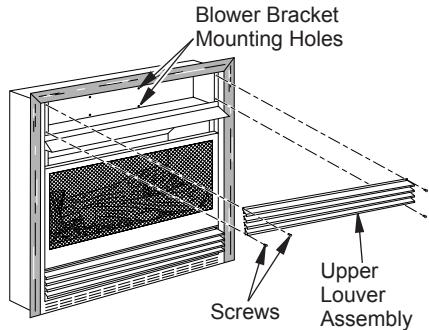
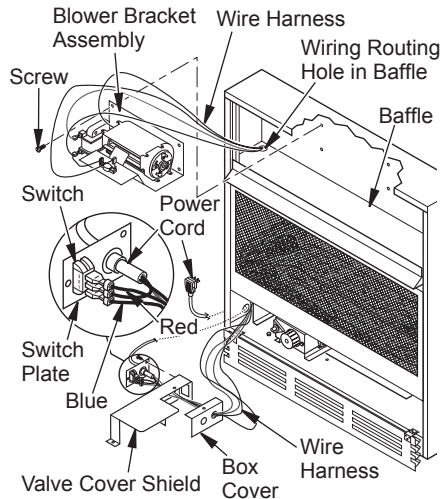
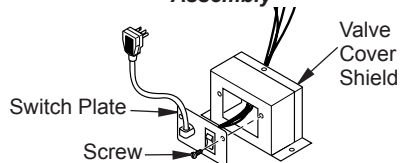

Figure 14 - Removing Upper Louver Assembly
Figure 16 - Installing Blower Bracket Assembly
Figure 17 - Installing Switch Plate to Valve Cover Shield
Built-in installation of this fireplace involves installing fireplace into a framed-in enclosure. This makes the front of fireplace flush with wall. An optional brass trim kit accessory is available (see *Accessories*, page 27). Brass trim will extend past sides of fireplace approximately 1/2". This will cover the rough edges of the wall opening. If installing a built-in mantel above the fireplace, you must follow the clearances shown in Figure 14, page 12. Follow the instructions below to install the fireplace in this manner. **Note:** Your fireplace is designed to be used in zero clearance installations. Wall or framing material can be placed directly against any exterior surface on the rear, sides or top of your fireplace.
2. Remove 4 screws from louver assembly (see Figure 14). Save these screws.
3. Note the wire locations on back of AUTO/OFF/ON switch. The terminals on back of switch are numbered 1, 2 and 3. Carefully remove red wire from terminal 1 and blue wire from terminal 3. Black wire can remain on middle terminal 2 (see Figure 16).
5. In top of the heater cabinet, locate the four mounting holes on the outer casing. Align these four holes with those on the blower bracket assembly. Attach blower bracket assembly to the outer casing with 4 #10 screws (see Figure 16).
6. Route the wire harness through the hole in left side of baffle. Pull wire harness through lower opening above where the valve shield was removed. (see Figure 16).
7. Insert the 4 wire harness into one of the round holes in the rear of the valve cover shield and through the rectangular hole in the front of shield (see Figure 16).
9. Install the switch plate on the valve cover shield with 2 #10 screws provided (see Figure 17). Reinstall the valve cover shield. Route power cord out of the cabinet by inserting it through the bushing on the outer casing (see Figure 16). Plug fan kit into 120-Volt grounded power supply and test operation. *Note:* When switch is in the AUTO position, the fan will start after the heater has run for a few moments. The fan will continue to run for several moments after the heater has been turned off. When switch is in the ON position, the fan will run until turned to OFF. Reinstall upper louver assembly and hood if previously removed, (see Figure 14, page 12). Close lower louver door.
8. Reinstall upper louver assembly and hood if previously removed, (see Figure 14, page 12). Close lower louver door.